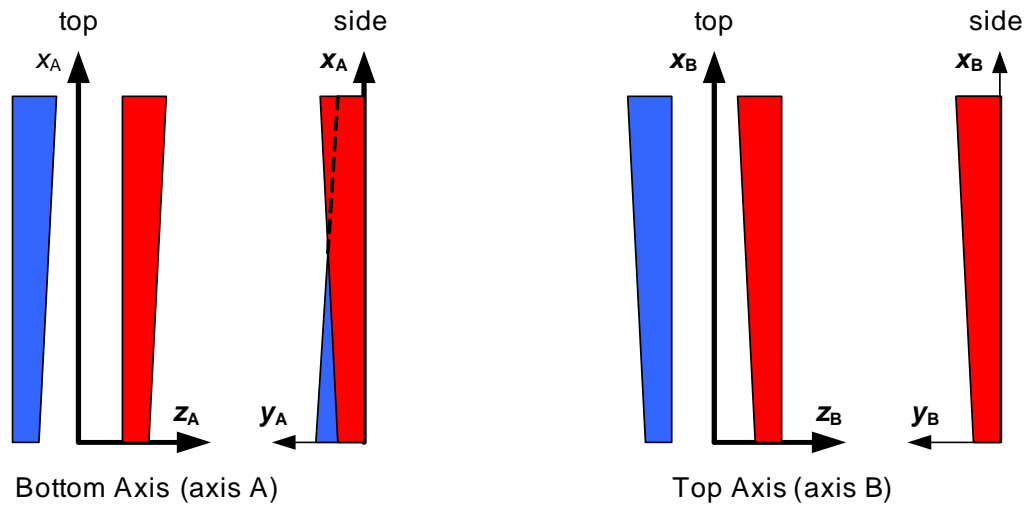

Figure 4 Arrangement of non-parallel rails
- a) For the 5 rail grades available, determine the maximum error (measured at the center of the work piece holder) as a result of geometric errors of the linear rails. Assume that the rails are straight (not bowed), but non-parallel. For the rail orientation for each axis refer to Figure 4.